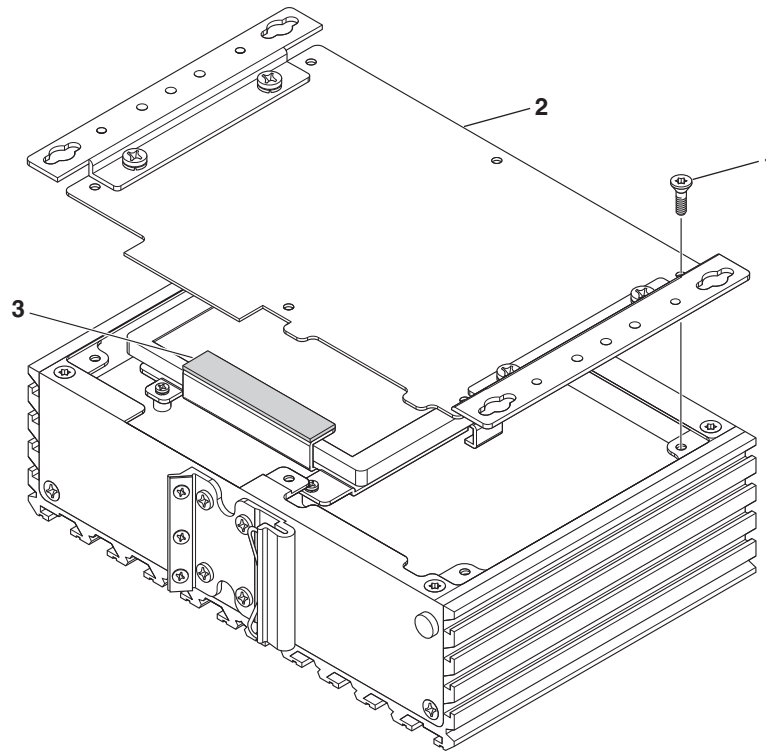

Figure 5-1 Access panel
5. Remove the six screws securing the adapter plate to the rear of the chassis (see Figure 5-1 for similar panel).